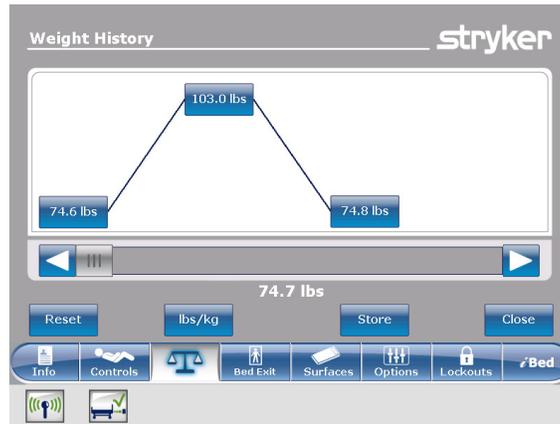

Figure 30 – Weight history
To reset the stored weight histories, tap **Reset** (Figure 30).
1. Tap a weight value in the weight history screen (Figure 30). Each value displays the time and date of the measurement (Figure 31).